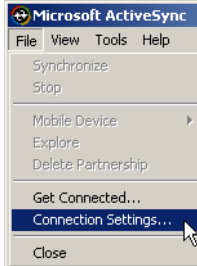

Figure A-4. Open Connection Settings
2. Click **File** ► **Connection Settings** (Figure A-4).